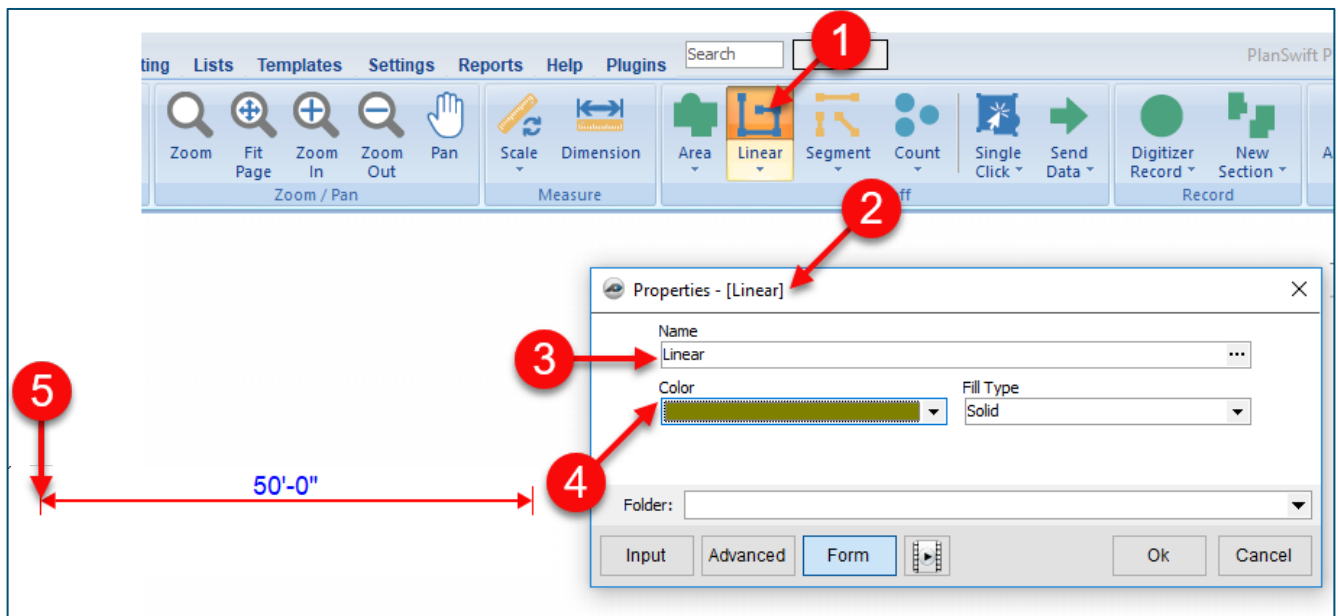

Figure 24-A
- Press the **A** key on the keyboard to specify an arc, and then click on where the circle diameter should extend to (Fig. 24-B). This defines the middle **Point** of the circle's arc. The diagram shows the magnifier (pressing letter M on the keyboard) being used to more accurately place the middle **Point**.